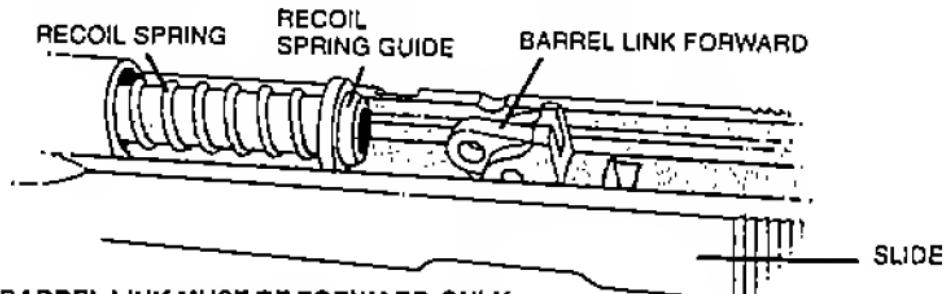

FIGURE 8 - BARREL LINK MUST BE FORWARD ONLY
(See Figure 8).
1. With slide upside down and barrel link forward, assemble barrel into the slide, as in Figure 8.